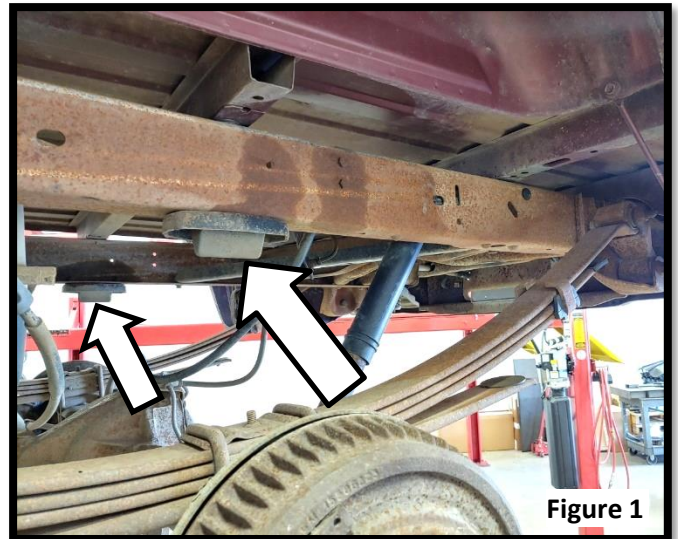

Figure 1
5. Remove the two rivets holding the original bump stops to the frame. Remove both drivers and passengers side bump stops. **(Figure 1)** The bump stop mounting holes will be used as the basis to locate the frame notch template.